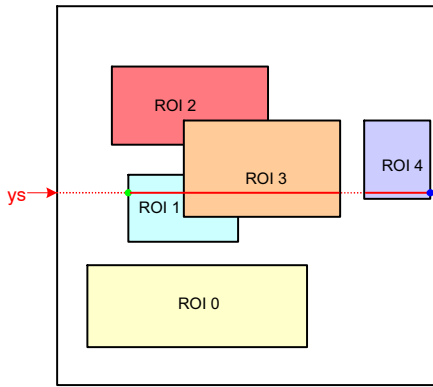

Figure 23. Scanning the Image Array with Five Windows
Figure 23 illustrates a practical example of a configuration with five windows. The current position of the read pointer (*ys*) is indicated by a red line crossing the image array. For this position of the read pointer, three windows need to be read out. The initial start position for the *x*-kernel pointer is the *x*-start configuration of ROI1. Kernels are scanned up to the ROI3 *x*-end position. From there, the *x*-pointer jumps to the next window, which is ROI4 in this illustration. When reaching ROI4's *x*-end position, the read pointer is incremented to the next line and *xs* is reinitialized to the starting position of ROI1.
- The read pointer is not necessarily incremented by one, but depending on the configuration, it can jump in *y*-direction. In Figure 23, this is the case when reaching the end of ROI0 where the read pointer jumps to the *y*-start position of ROI1